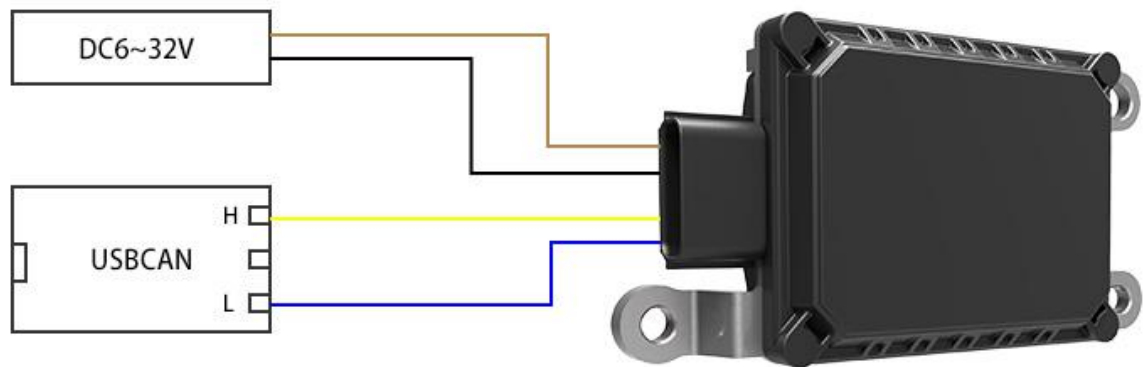

Figure 7 CANBUS connection and test diagram
2) NSM_77 Tools utilizes the USB2CAN adapter shown in figure 7 to communicate with SR73F. Other types of USB2CAN adapters are not supported at this time. The shipping list doesn't include USB2CAN adapters by default. Customers can get it from Nanoradar customer service to obtain CAN adapter purchase link or buy it directly from Nanoradar.